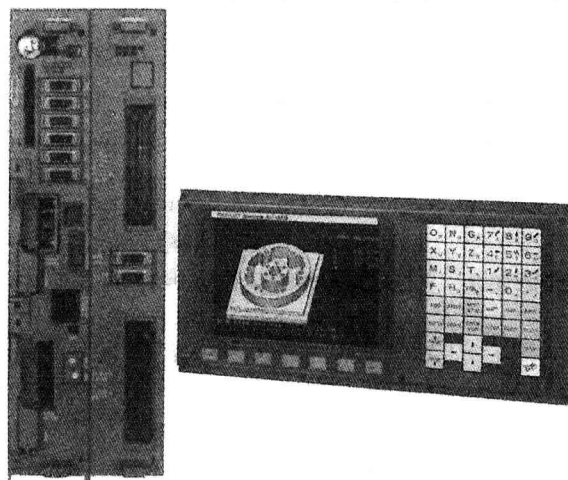

Fig. 1-2 CNC control
The CNC control (refer to Fig. 1-2) will interpret a CNC program and activate the series of commands in sequential order. As it reads the program, the CNC control will activate the appropriate machine functions, cause axis motion, and in general, follow the instructions given in the program. ①